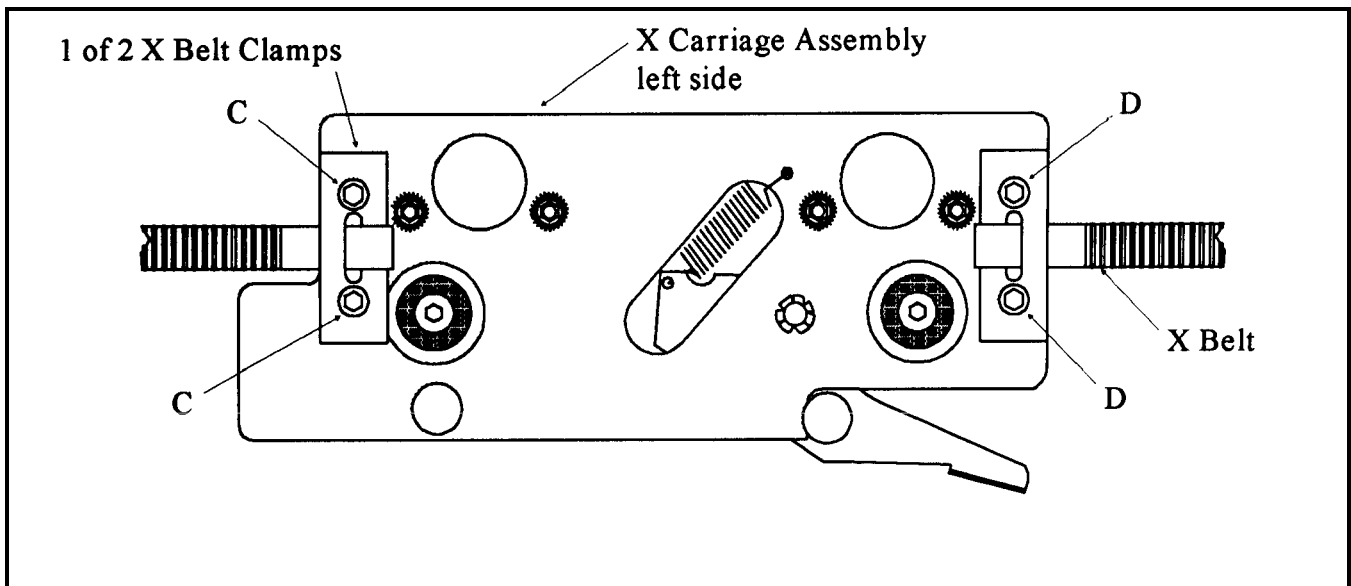

Figure 3
5. Note how the old belt is attached to the belt clamps, then remove the two screws (C) securing the belt clamp on the left side of the X carriage. (See Figure 3)
7. Center the belt into the slot of the clamp and attach it securely in place with the existing two screws (C) (See Figure 3).
10. Disassemble the other end of the old belt from the remaining end of the X carriage assembly, by removing the two screws (D) (See Figure 3).
12. Center the belt into the slot of the clamp and attach it securely in place with the existing two screws (D) (See Figure 3).